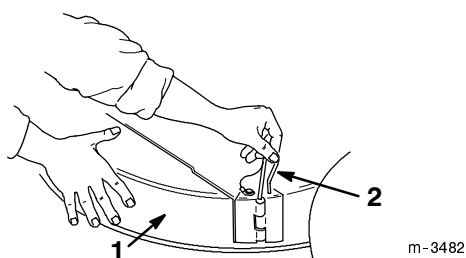

Figure 8
1. Secure the retainer to the duct with the barbed clip and spacer fastener (Fig. 8).
2. Slide the duct over the end of the chute, aligning the retainer with the knob on the chute. Pull the retainer over the knob, securing the duct and chute (Fig. 8).
5. Slide the front of the chute into the locking position on the mower. Insert the locking pin (Fig. 8).
2. Remove the locking pin securing the chute to the mower. Pull the chute out of the mower (Fig. 8).
3. Disconnect the retainer on the duct from the knob on the chute and pull the duct free from the chute and grass catcher (Fig. 8).